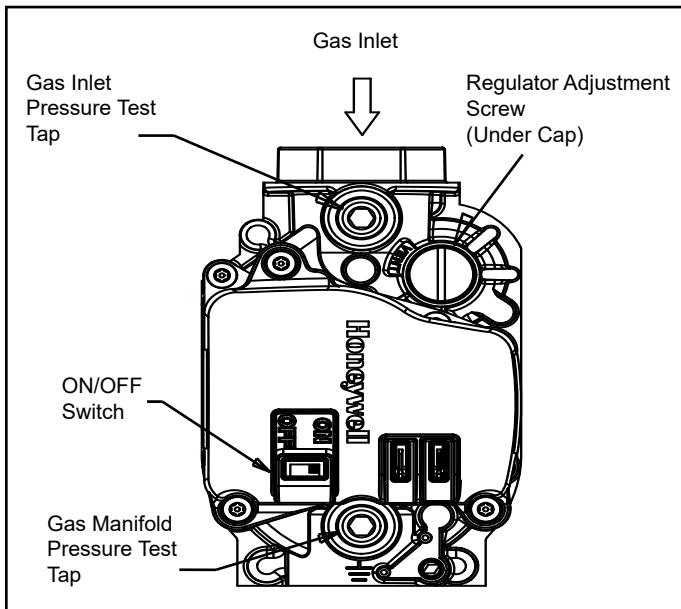

Figure 7. Gas Valve
3. Move the gas valve ON/OFF switch to the "ON" position (Figure 7).
2. Move the ON/OFF switch to the "OFF" position (Figure 7).